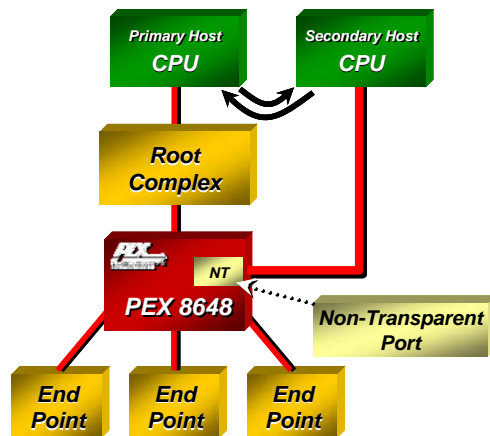

Figure 2. Non-Transparent Port
The PEX 8648 product supports a **Non-Transparent (NT) Port**, which enables the implementation of **multi-host systems** in communications, storage, and blade server applications. The NT port allows systems to isolate host memory domains by presenting the processor subsystem as an endpoint rather than another memory system. Base address registers are used to translate addresses; doorbell registers are used to send interrupts between the address domains; and scratchpad registers (accessible by both CPUs) allow inter-processor communication (see Figure 2).